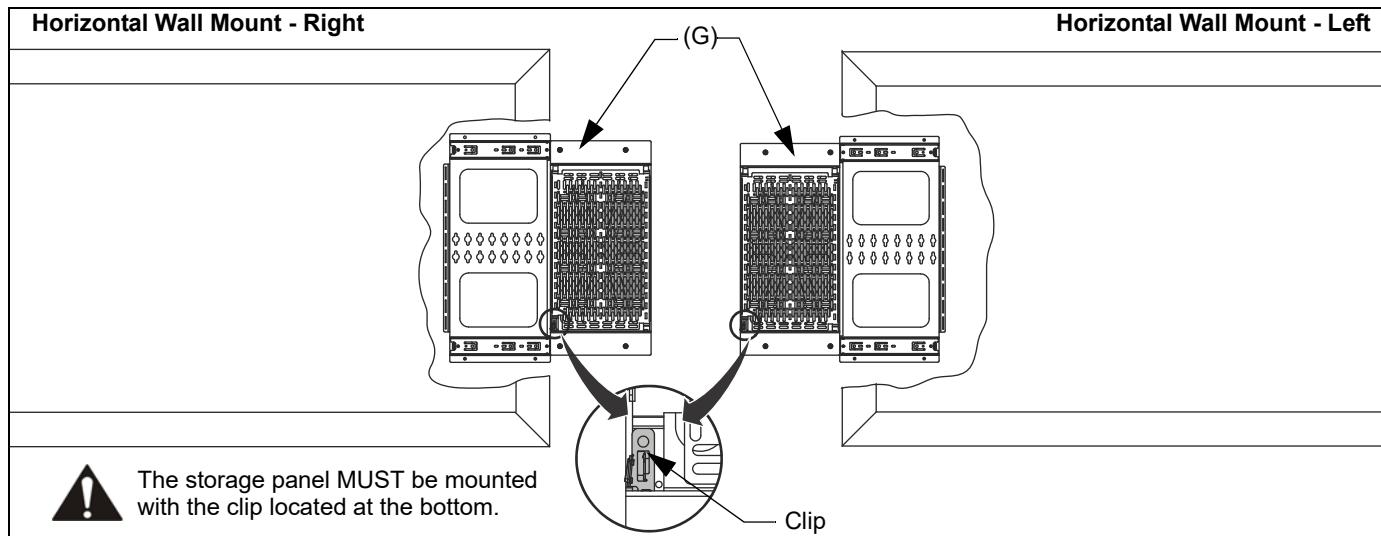
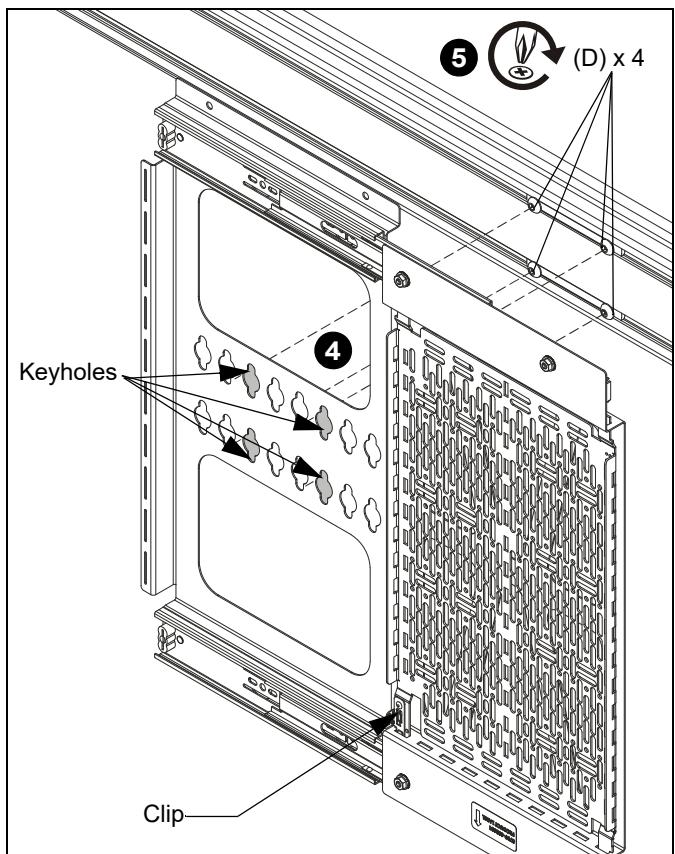

Figure 1
Figure 5
**NOTE:** The storage panel (G) may be installed directly on the wall in one of two horizontal positions. (See Figure 1)
**CAUTION:** The storage panel must be mounted with the clip at the bottom. (See Figure 1)
**CAUTION:** The storage panel must be mounted with the clip at the bottom. (See Figure 1) and (See Figure 5)
4. Hold the storage panel (G) over the four button head screws (D) and lower the storage panel keyholes over the screws. (See Figure 5)